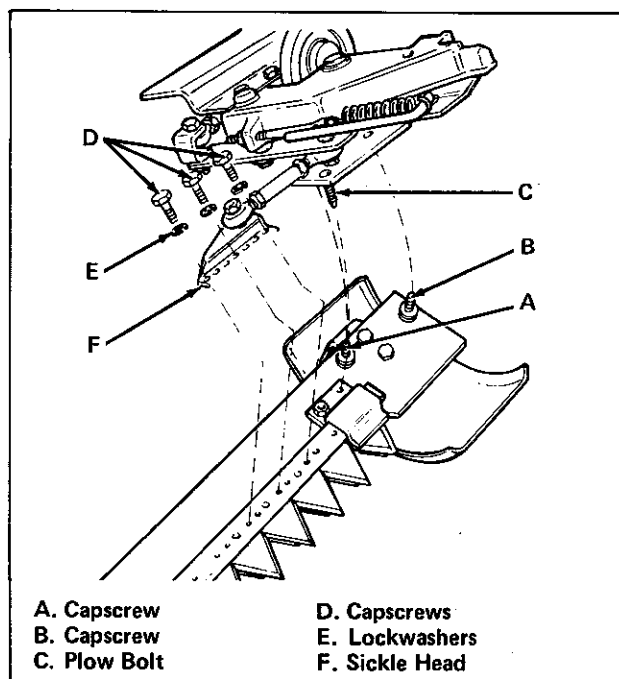

Figure 20. Attaching Sickle Group
8. Mount sickle group to drive group using the longest capscrew (item B, figure 20) and the remaining long capscrew (item A). Insert plow bolt (item C).